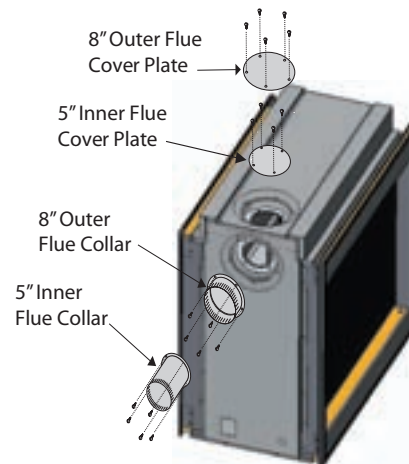

Figure 9a. Flue cover and collar installation, *Side Vented* fireplace.
3. Install the (removed) Side flue cover and gasket material, to the Top vent outlet. Fasten the cover with included hardware, as illustrated **Figure 9a**.